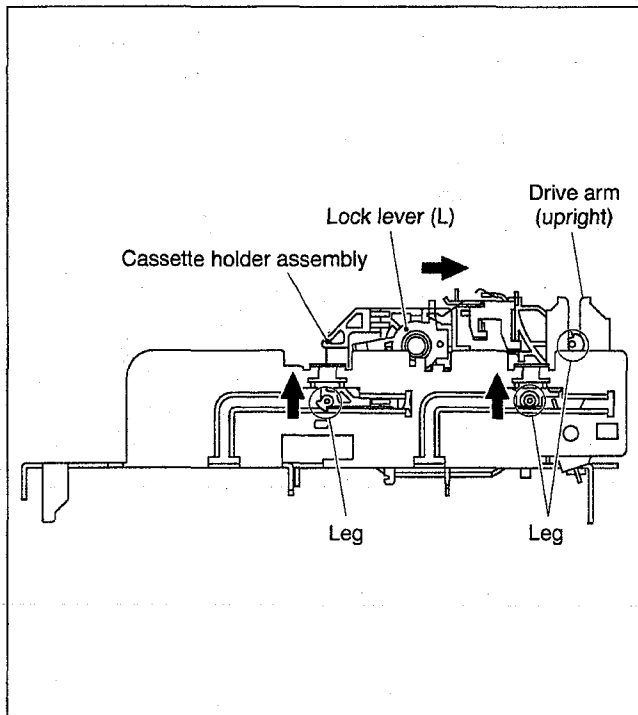

Fig. 2-2-4
- (4) While swinging the lock levers (R) and (L) of the cassette holder assembly toward the front, slide the cassette holder assembly until its legs come to where the guide rail and the rail cap have been removed (so that the drive arm is upright). (See Fig.2-2-4)